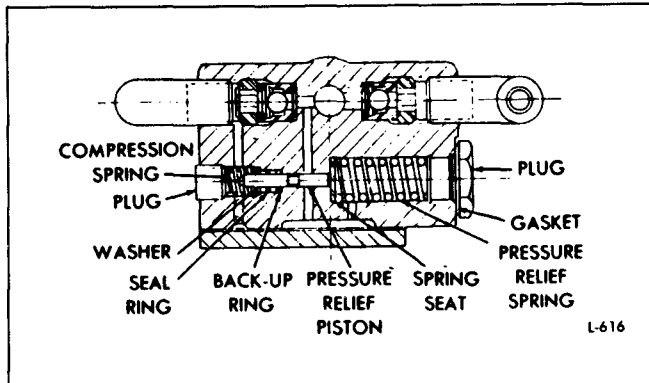

Fig. 13 - Engine-Driven Hydrostarter Charging Pump Pressure Relief Piston Assembly
relief piston. Care must be taken to avoid cutting the seal ring as it is worked into place. Refer to (Figs. 13 and 14).
3. Coat the back-up ring and seal ring liberally with hydraulic fluid. Then insert the relief piston assembly into the pump body, the flat end of the piston first, using installer J 7192. Apply manual force to the installer in order to gradually work the back-up ring and seal ring into the counterbore around the pressure relief piston. Care must be taken to avoid cutting the seal ring as it is worked into place. Refer to (Figs. 13 and 14).